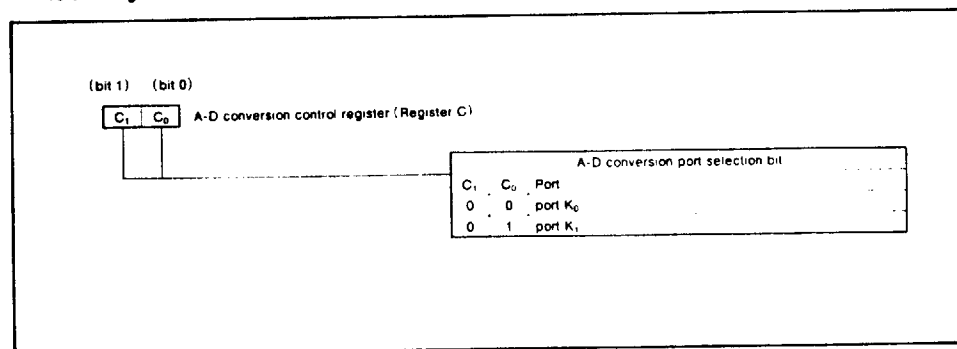

Fig.7 Structure of A-D conversion control register (register C)
(1) A-D control register (C)
The A-D control register (C) is a 2-bit register. One of the two analog inputs is selected according to the combination of bits 0 and 1 of this register. Figure 7 shows the correspondence between the selected analog input pin and bit 0 or 1.
(2) The A-D conversion start instruction (ADST)